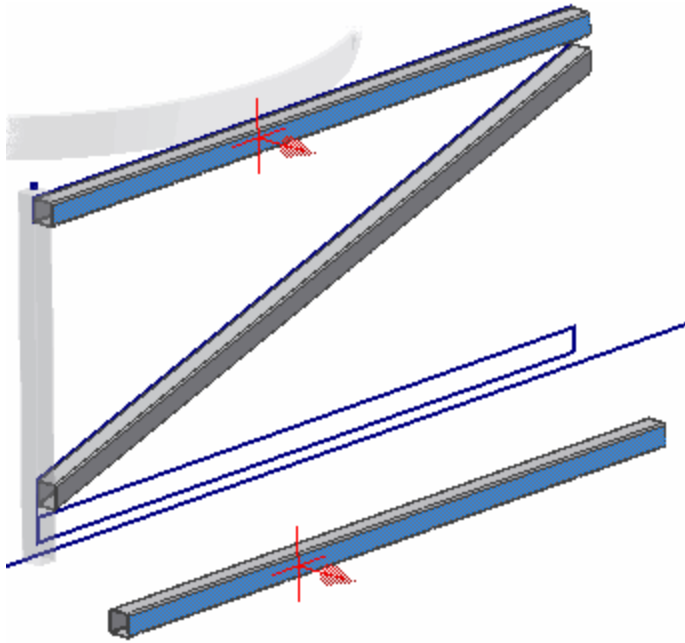

Figure 15: Face/Face flush constraint.
3. Add a Flush constraint between the two faces highlighted in Figure 15.